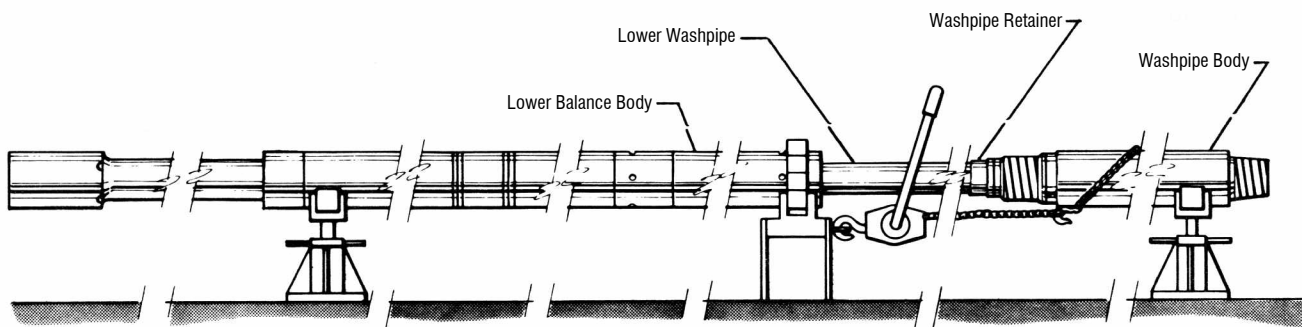

Figure 9
9. Relocate tool in Support Stand and Vise to clamp on end of Lower Balance Body. Take Washpipe Body (71) from temporary position which already has Bearing, Washpipe Body Packing Support and Washpipe Body Packing Retainer installed (see step 2), and using chain comealong, slide it over Lower Washpipe and make up to Lower Balance Body. See Figure 9, page 13.
10. Spray a water displacing oil inside the two (2) remaining chambers through the external balance ports. Work Mandrel back and forth over its full stroke length and spray more of the oil into the chambers. Before installing Fill Plugs (not required on newer style tools) in Upper Balance Body, fill with Bowen Itcolube.